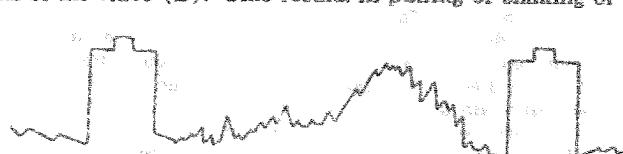
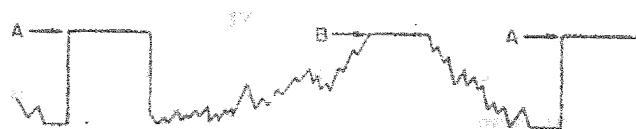

Figure 4—Normal Video and Sync Signal.
Figure 5—Overloaded or Clipped Video and Sync Signal.
After detection, a video signal normally appears as shown in Figure 4. If the signal is clipped in an I.F. stage it will look like Figure 5. Now, the horizontal oscillator will try to synchronize both on the blanking signal (A) and on the very black portions of the video (B). This results in pulsing or snaking of the picture.